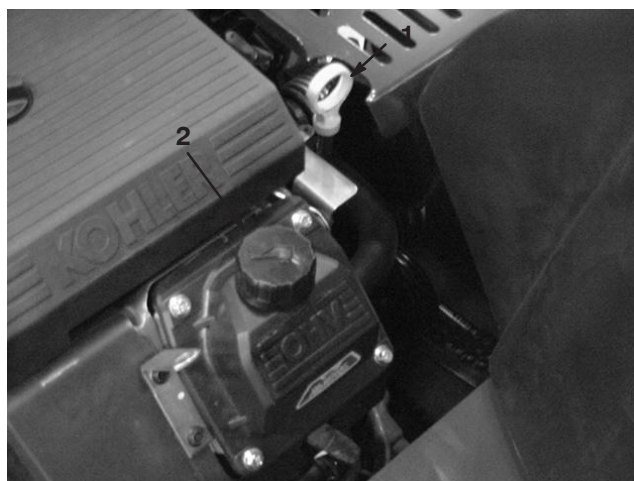

Figure 44
3. Clean around the oil dipstick (Fig. 44) so dirt cannot fall into the filler hole and damage the engine.
5. Slowly pour approximately 80% of the specified oil into the filler cap (Fig. 44). Refer to Servicing the Engine Oil, page 34.